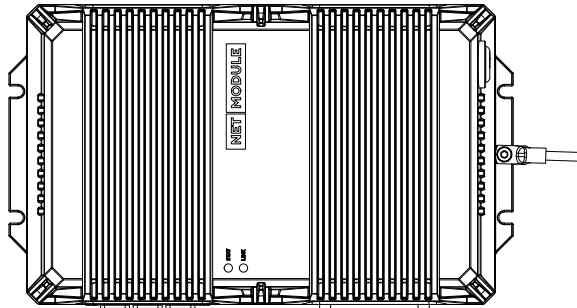

Figure 8
- 6.1 Place the cable with the molex connector (Figure 8)
- 6.2 Turn the bracket clockwise to the position unlocked (Figure 8)